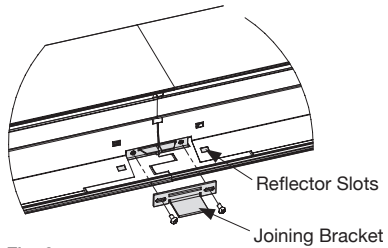

Fig. 2
- From the bottom of the fixture, slide the joining bracket onto the two flanges of the preinstalled bottom brackets and secure using two #6-32 screws (Fig. 2). Repeat this process on the opposite side of the fixture.